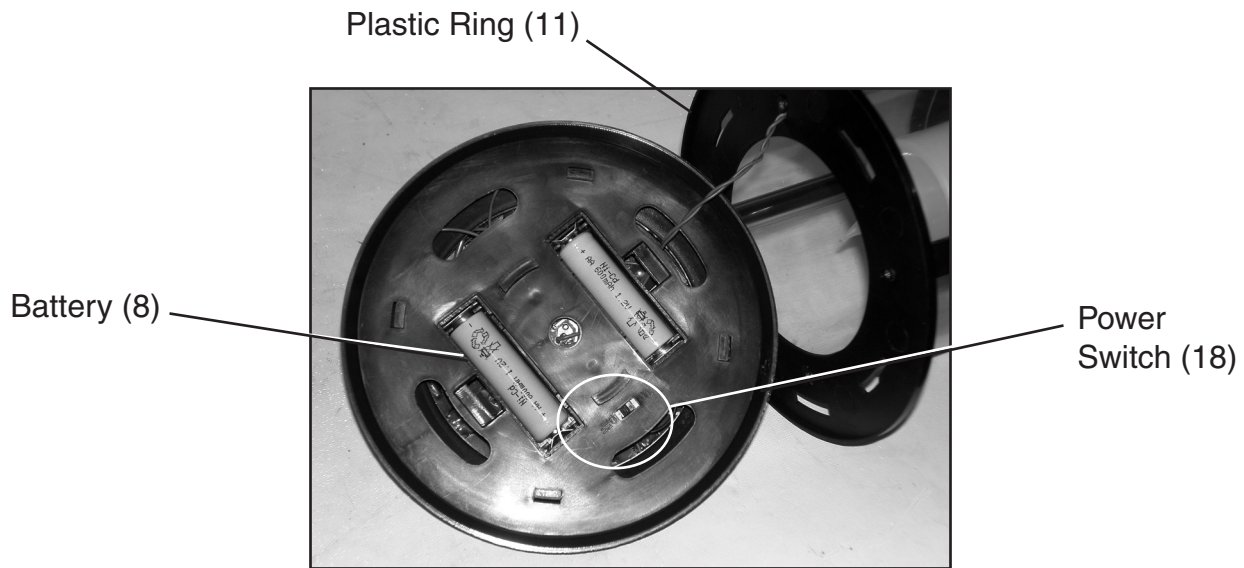

FIGURE 2
3. The Power Switch (10) is on the underside of the Top Assembly. To have the light turn on at night, locate the Power Switch (18) and switch to the ON position. You can turn the Solar Candle Garden Lantern Power Switch (18) OFF if you do not want the light to turn on at night. *See Figure 2.*
2. Take assembly off the Lantern, being careful not to disturb the wires and the internal components. *See Figure 2 on page 4.*
3. Remove the used Batteries (8) and dispose of them properly according to the Solid Waste Disposal regulations in your community. Replace with new Rechargeable